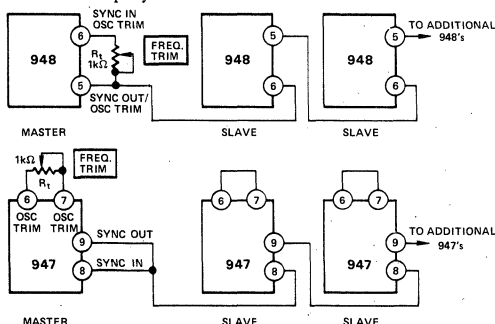

Figure 5. Model 948 and 947 Connections for Systems with Greater than 8 Channels
- For applications requiring more than eight 288's, additional 947's or 948's may be used in a master/slave mode. Refer to Figure 5.
Driver Synchronization: A single model 947 or model 948 driver can be applied in systems having from 1 to 8 data channels, as shown in Figures 3 and 10. Additional model 947's and 948's may be driven in a slave-mode, as shown in Figure 5, to expand the total system channels from 8 to virtually any number of channels.
Optional Oscillator Adjustment: Models 947 and 948 provide the user with a method to trim the internal 100kHz oscillator over a range of $\pm 5\%$ (95kHz to 105kHz). This feature may be used when an external noise is "beating" with the 100kHz oscillator and a small trim adjustment of the oscillator frequency will eliminate the resulting noise frequency. As shown in Figure 5, a trim adjust, R_t , is installed between the OSC TRIM terminals. No specification changes occur when this trim adjustment is employed.